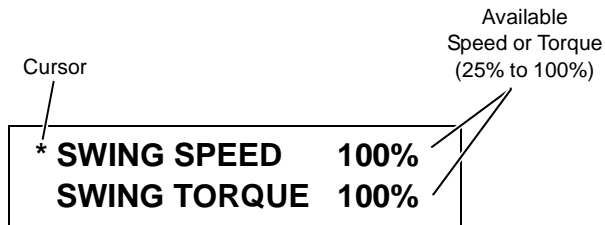

FIGURE 3-57
2. Access diagnostic screens (Figure 3-57):